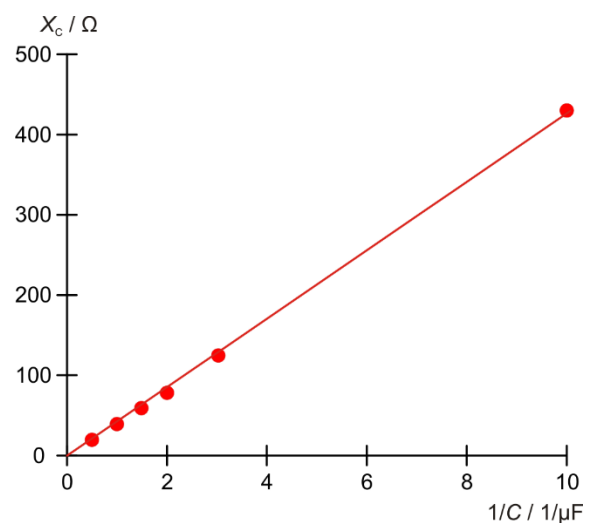
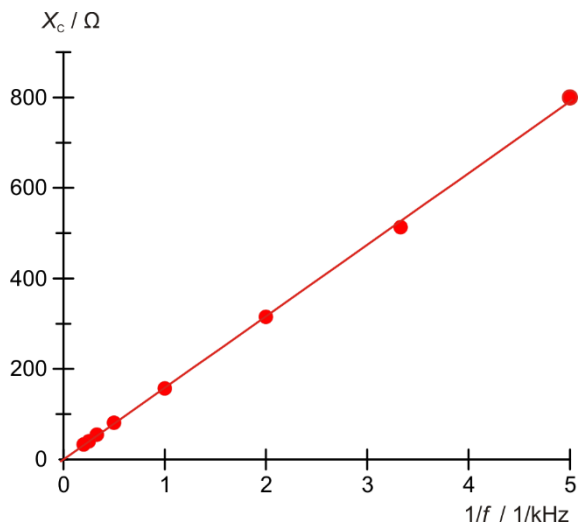

Fig. 4: Capacitive impedance X_C as a function of the inverse of the capacitance C .
Fig. 5: Capacitive impedance X_c as a function of the inverse of the frequency f .
- Plot the capacitive impedance values X_C against the inverse of the capacitance (Table 1, Fig. 4) and the frequency (Table 2, Fig. 5).